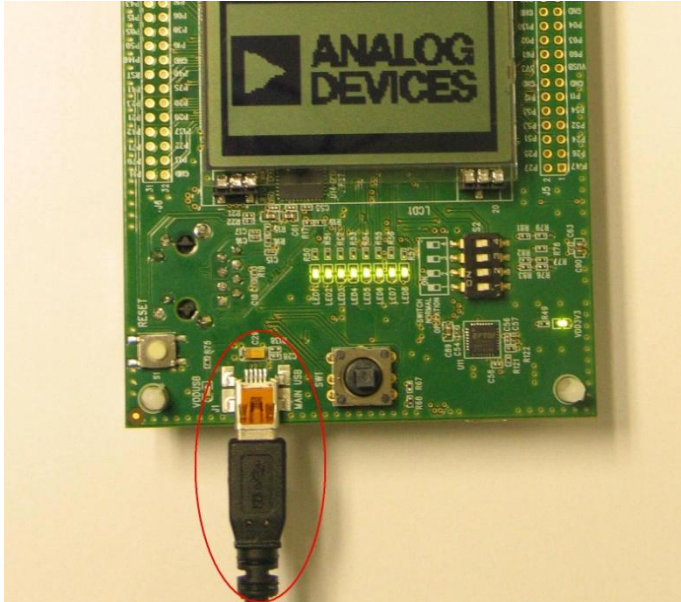

Figure 4
1. Once the required software is installed, ensure the ADF7023 daughter card is plugged into the ADF7xxxMB4z motherboard. Once complete, plug the USB cable into the **"MAIN USB"** port (Figure 4) on the ADF7xxxMB4z and the other end to the PC on which the software is installed.